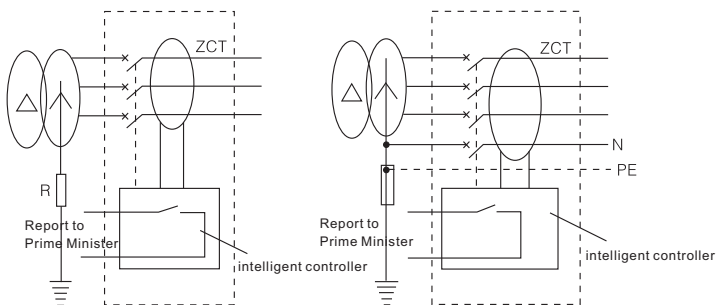
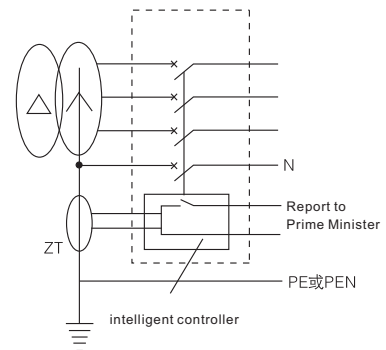

Figure 7 Leakage Load Circuit Type
Figure 8 Grounding Line of Leakage Transformer
Leakage protection mainly takes signals through zero sequence transformers, which have high flexibility and are suitable for grounding protection of several ampere high resistance grounding systems, as well as direct grounding systems. Generally, it only alarms and does not trip, and the circuit breaker can also be disconnected when needed. The connection method is shown in Figure 7 and Figure 8. In addition, there are two types of load circuit (ZCT) or transformer grounding wire (ZT).